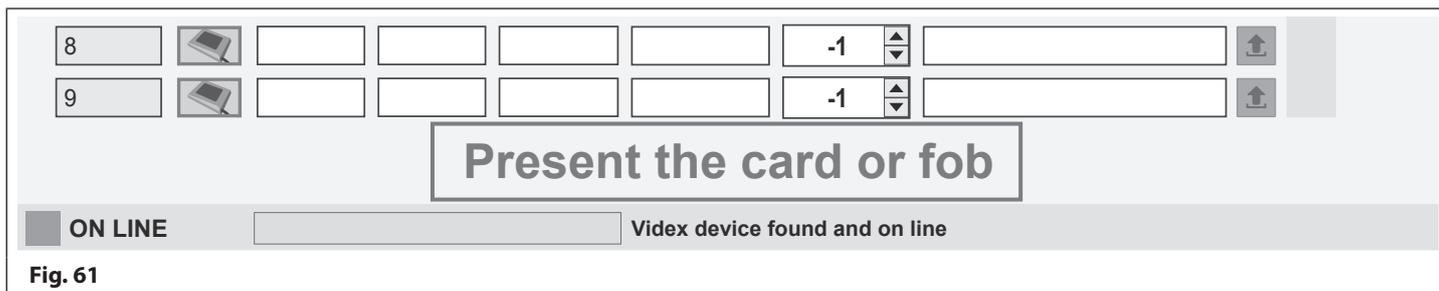

Fig. 61
- At the bottom of the prox screen (in red) the **GSMSK** software will advise '**Present the card or fob**', as shown in **Fig.61**.
- At the bottom of the prox screen (in red) the **GSMSK** software will advise 'Present the card or fob'; refer back to **Fig.61**.